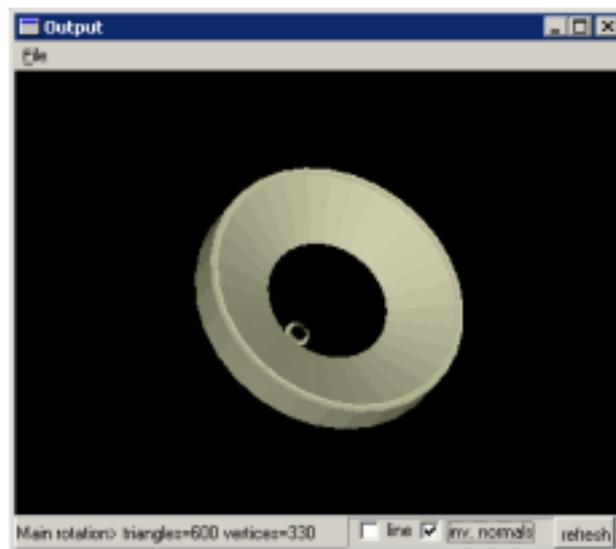

Figure 5.4 : *Output window*
Here is the explanation of the important functions in the Output window (Figure 5.4):
*Intensity clipping* - After choosing this tool a new dialog appears (Figure 5.4). The first slider represents the lower clipping value with the second representing the upper clipping value. After editing, values are shown in edit boxes. The <Enter> key should be pressed to confirm these new values.